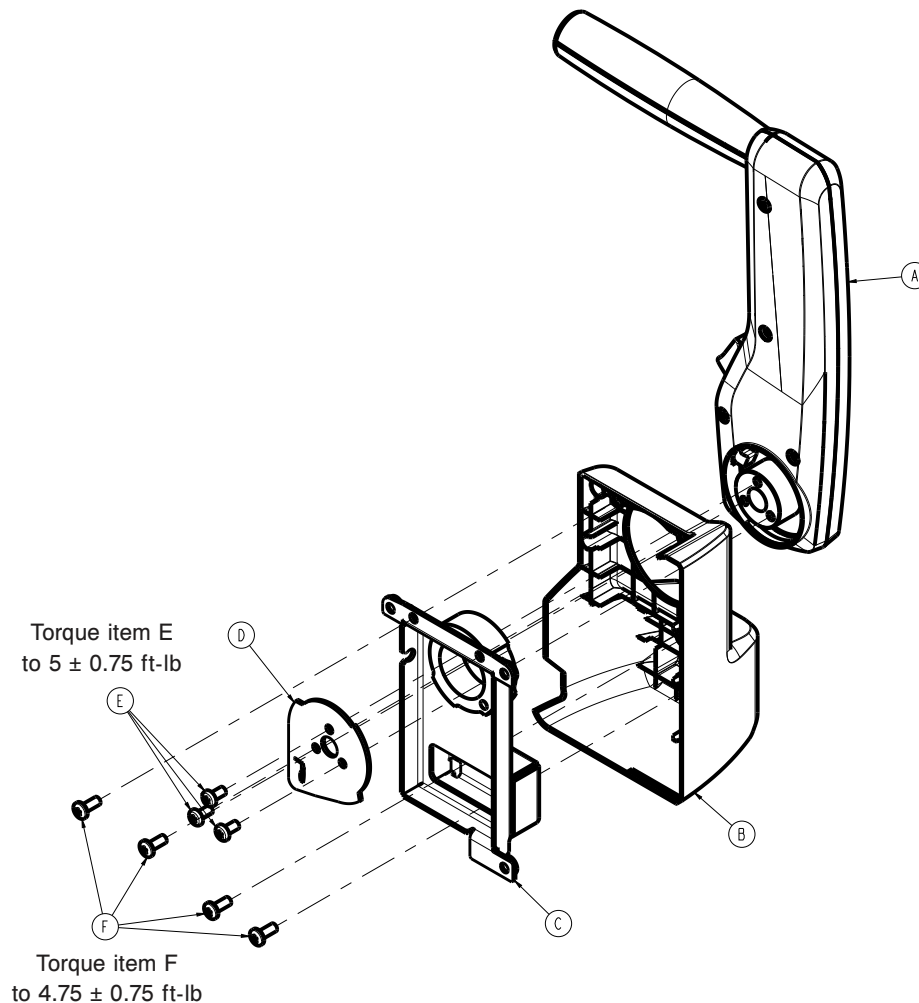

Figure 53 – Removing the Zoom push handle
9. Using a T30 Torx driver, remove the three screws (E) that secure the **Zoom** push handle (A) to the bumper (B) and remove the pivot plate (D) (Figure 53). Save the pivot plate.